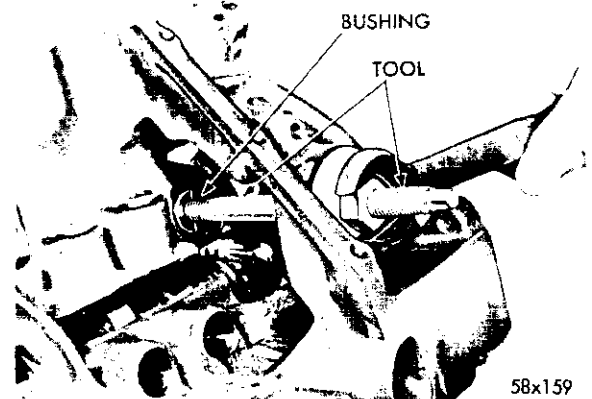

Fig. 34—Removing the Distributor Drive Shaft Bushing
(1) Insert Tool C-3052 into the old bushings and thread down until a tight fit is obtained (Figure 34).
(2) Hold the puller screw and tighten puller nut until bushing is removed.